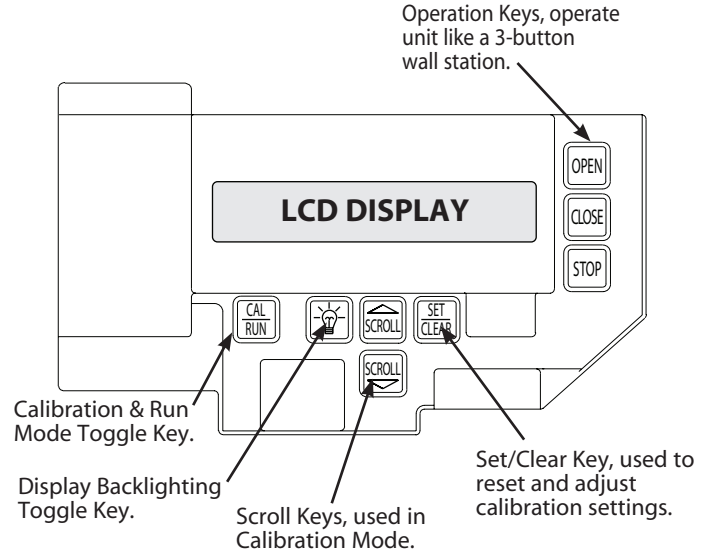

Figure 1
**⚠ DANGER:** After power is supplied to the operator, **Do Not** make contact with components inside the control panel except for the Keypad Keys. **Fig. 1.**
RHX® Operators include a full function control panel including a liquid crystal display (LCD), calibration keys and Open, Close and Stop keys for on board operator control. See **Fig. 1**. The open, close and stop keys function as a 3-button wall control. The Display will show current operator conditions and calibration information. Due to limited character space, some displays will be abbreviated. See Appendix C (pgs. 10.9-10.11) for full display descriptions.
**⚠ DANGER:** After power is supplied to the operator, **Do Not** make contact with components inside the control panel except for the Keypad Keys. **Fig. 1**.